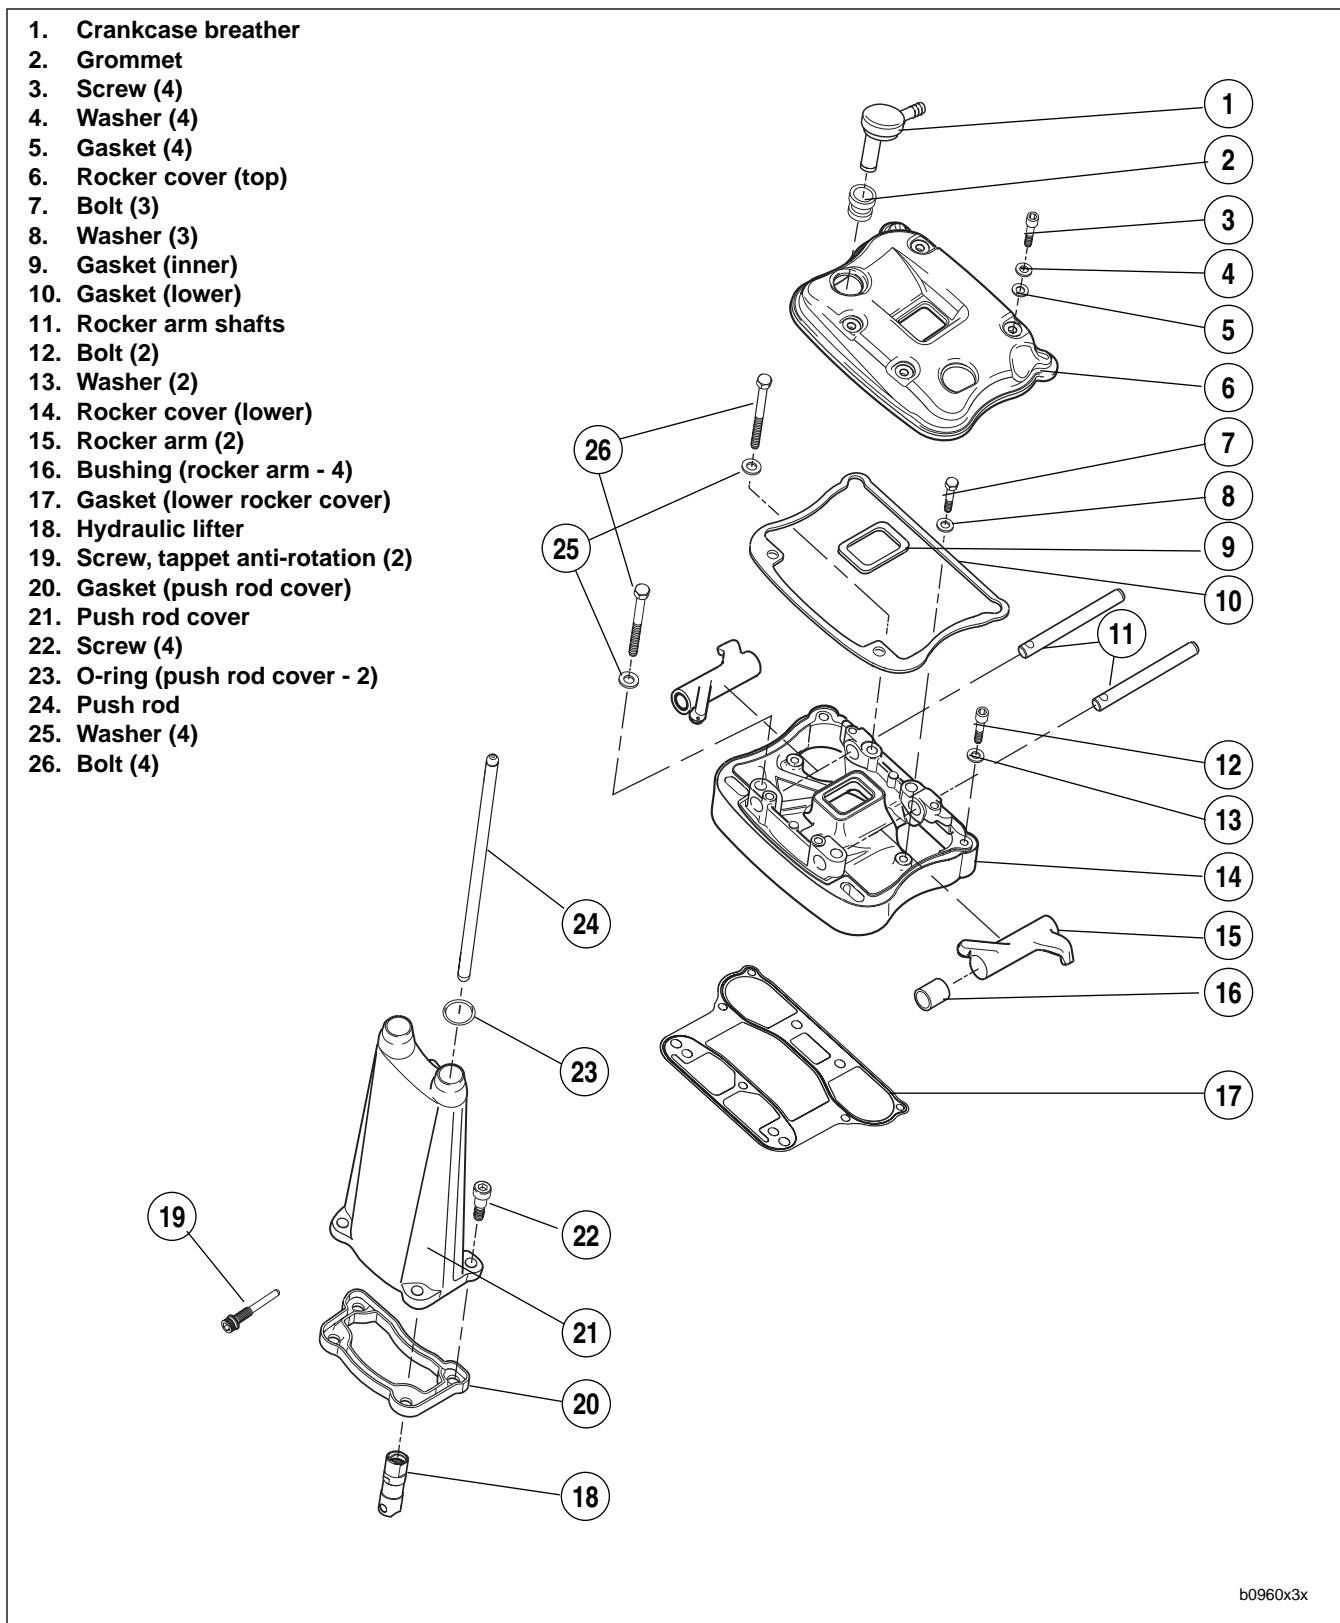
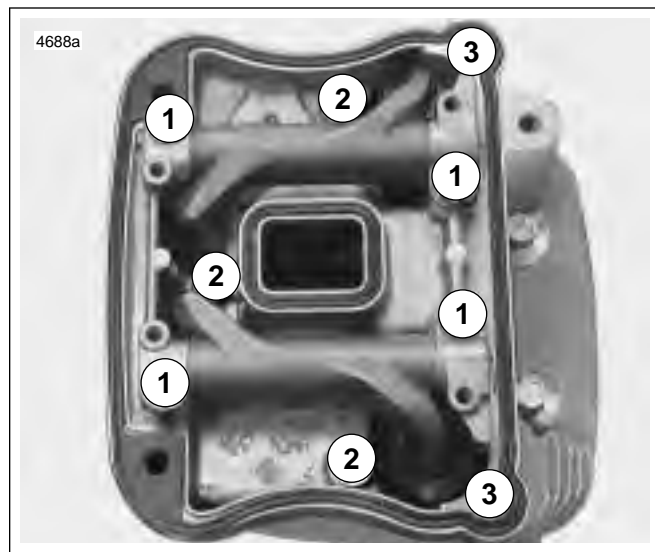

Figure 3-84. Rocker Arm and Push Rod Cover Assemblies
Figure 3-85. Lower Rocker Box Fasteners
9. See Figure 3-85. Install **new** gaskets with the bead facing up. Place lower rocker box assembly (with rocker arms and shafts) into position. Place push rods in rocker arm sockets.
10. See Figure 3-85. Install hardware attaching lower rocker cover to cylinder head in the following order. After loosely installing all fasteners, use a cross pattern on the four large bolts that fasten the lower rocker box to head to tighten and then torque to specifications. This will bleed the tappets. Finish tightening remaining fasteners. Fastener sequences, sizes and torque specifications are listed in Table 3-21.
- Tighten bolts (1) to 18-22 ft-lbs (24-30 Nm).
- Tighten bolts (2) to 135-155 **in-lbs** (15-18 Nm).
- Tighten screws (3) to 135-155 **in-lbs** (15-18 Nm).
11. See Figure 3-84. Install upper rocker covers.